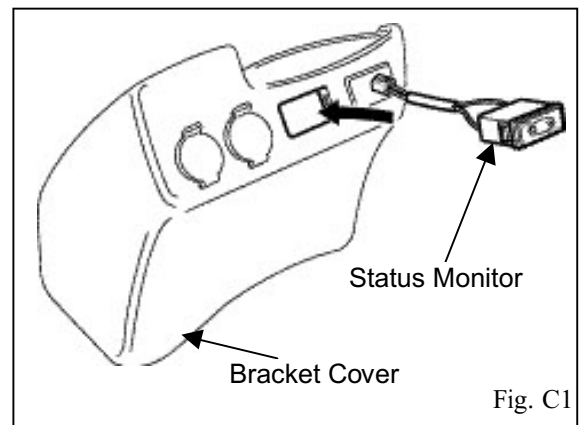

Fig. C1
1. Remove and discard the knockout cover from the bracket cover. (Fig. C1)
➔ 2. Install the Status Monitor to the bracket cover. (Fig. C1)